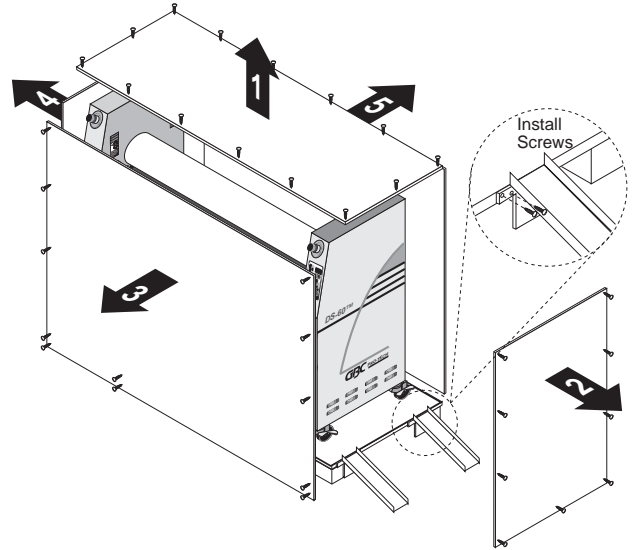

Figure 3-2: Removing the Crate
1. Remove the top of the crate and then the sides in the order shown in Figure 3-2.